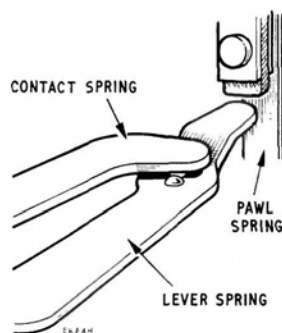

FIG. 22
18. Interrupter-spring assembly (see Fig. 22).—With the armature normal, there must be a clearance between the tip of the moving interrupter spring and the interrupter striker. The following conditions must be satisfied for correct adjustment:—